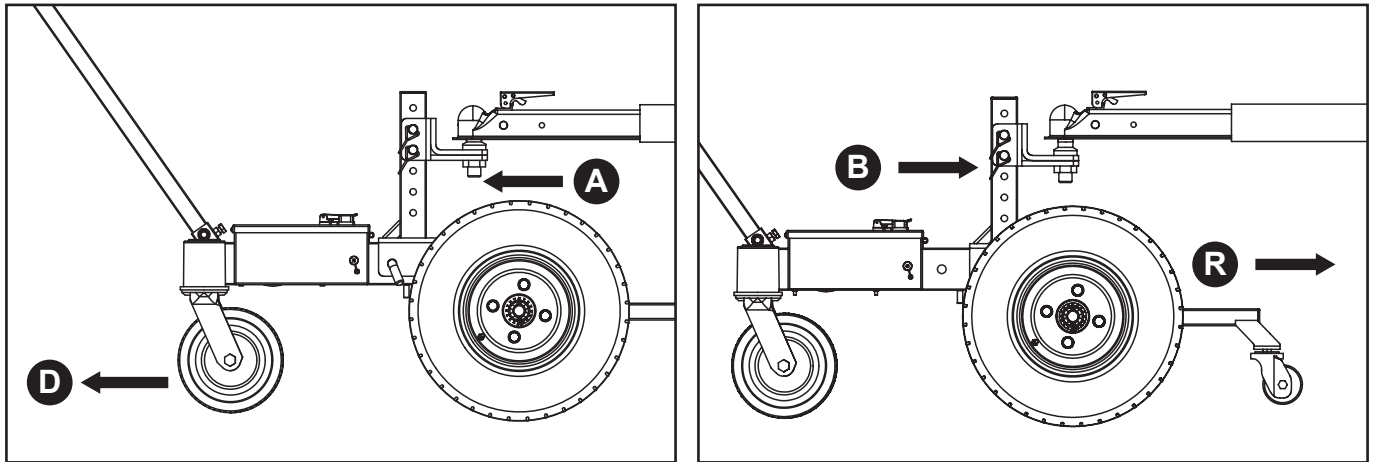

Fig.08
1. In order to ensure that the dolly operates with the maximum traction and sufficient friction is maintained between the wheels and the ground, please select the appropriate hitch ball position according to the use scenario. As shown in the figure, when the machine travels in the D direction, please put the hitch ball adjusting stem at the Gear A position; when it travels in the R direction, please put the hitch ball adjusting stem at the Gear B position. **(Fig.08)**